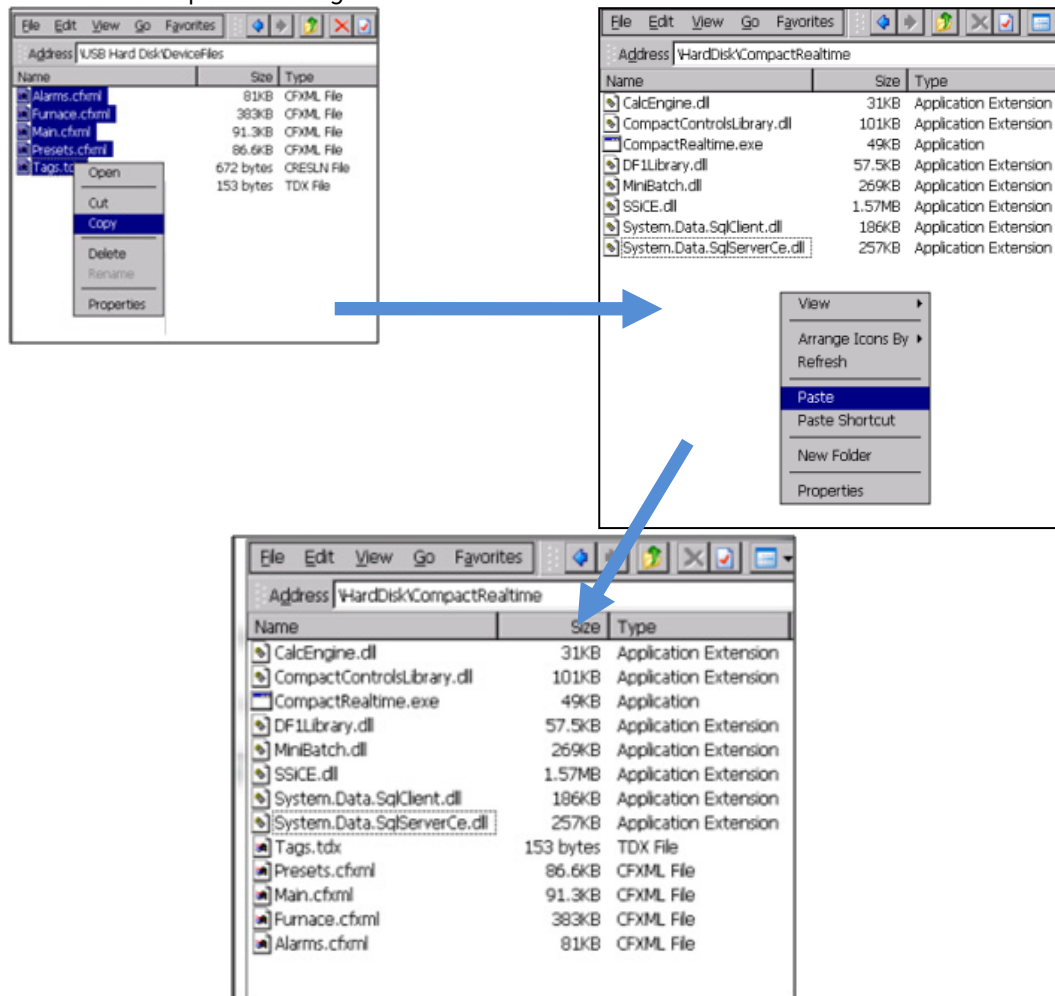

Figure 60 - Copying Device Files to CompactRealtime Folder
- Double-tap on **My Device** on the touch screen desktop. Remove any .cfxml and .tdx files from the \CompactRealtime folder. Then copy the device files from the storage medium to the drive from which the touch screen runs Compact HMI (this is typically the drive from which the touch screen runs the SSI controller application). The destination folder will be the \CompactRealtime folder on the destination drive. An example of this procedure is depicted in Figure 60.